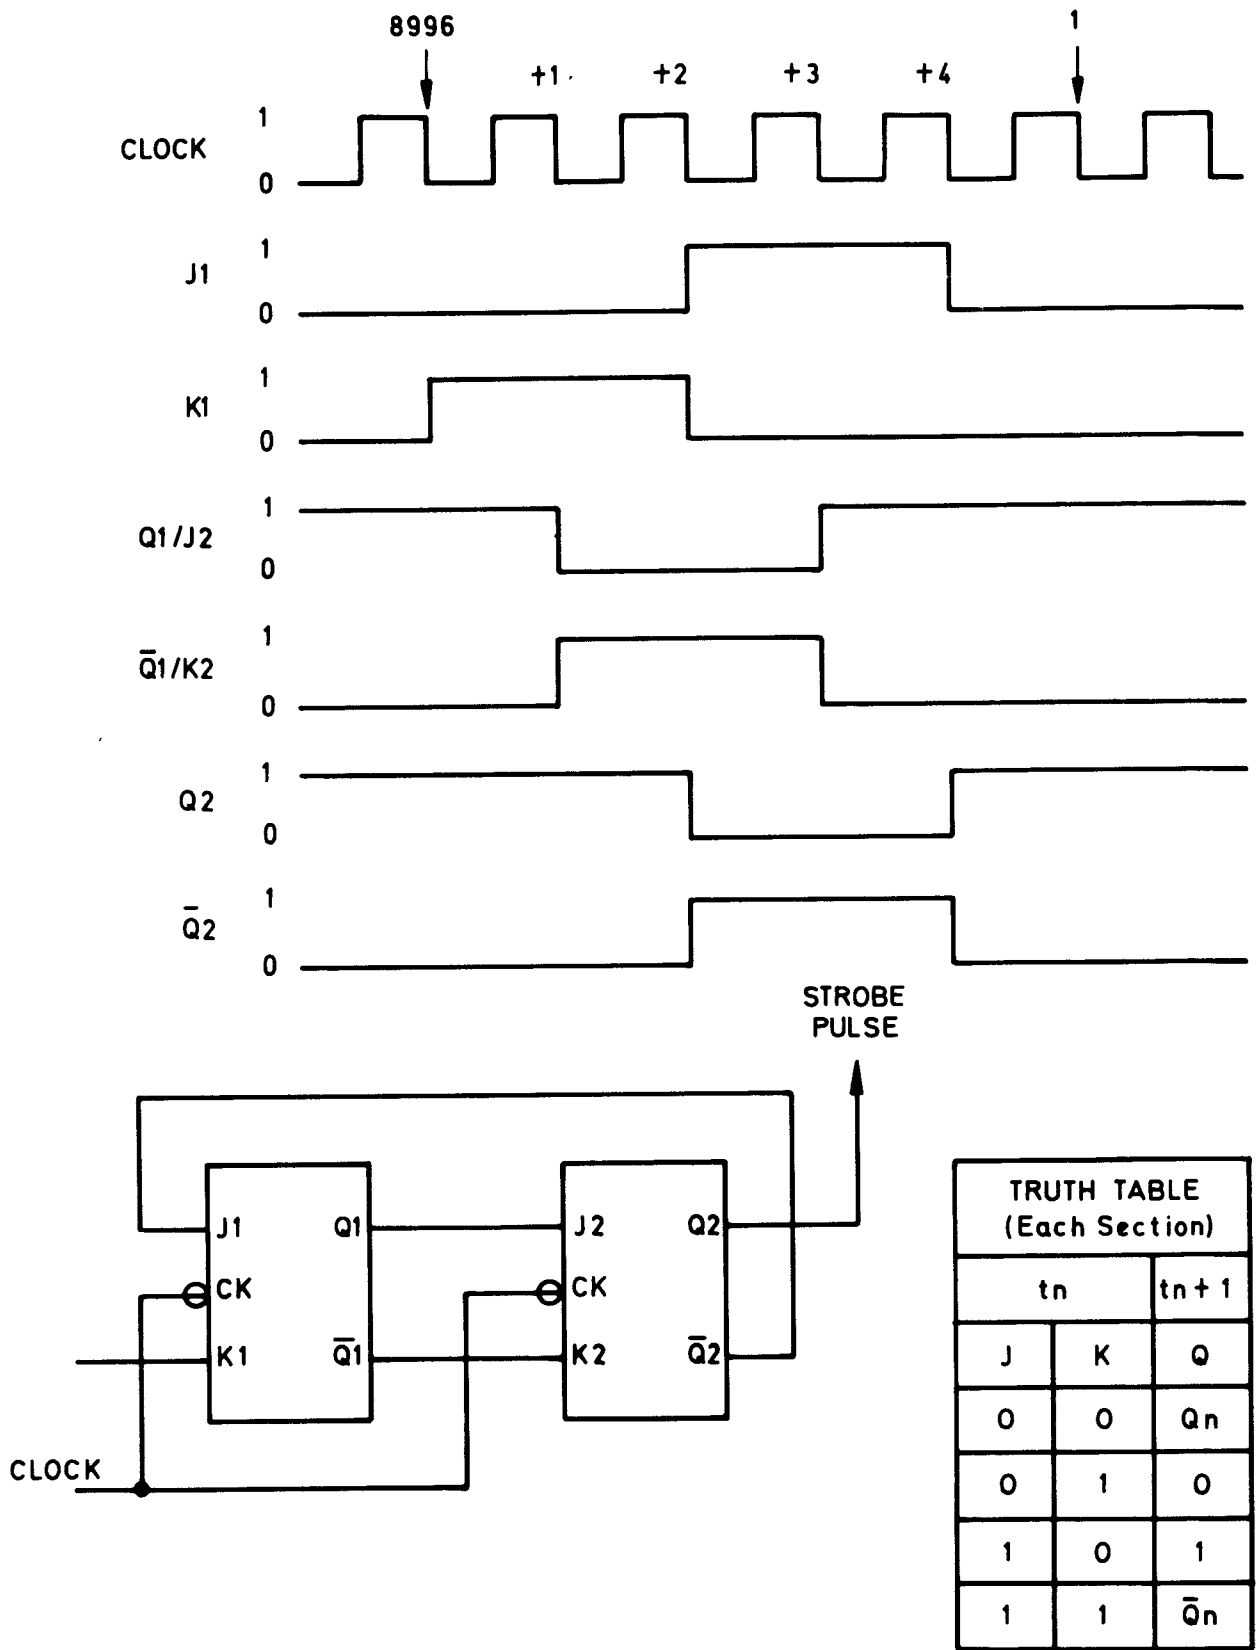

Fig.6 Timing diagram : strobe pulse generation (l.f. loop PM588)
53. Once a count of 8996 is reached, the input lines to NAND gate G2 are all at logic '1' and the '0' output, inverted by G3, is applied to the K input of a dual negative-edge triggered J-K flip-flop, ML11. The operation of this flip-flop, which generates the strobe pulse for the decade counters, is given in the timing diagram, fig.6. From this diagram it can be seen that two clock pulses elapse to coincide with the end of the strobe pulse. Thus four clock pulses are counted by ML11, making a total count of 7000, i.e. 6996 + 4.